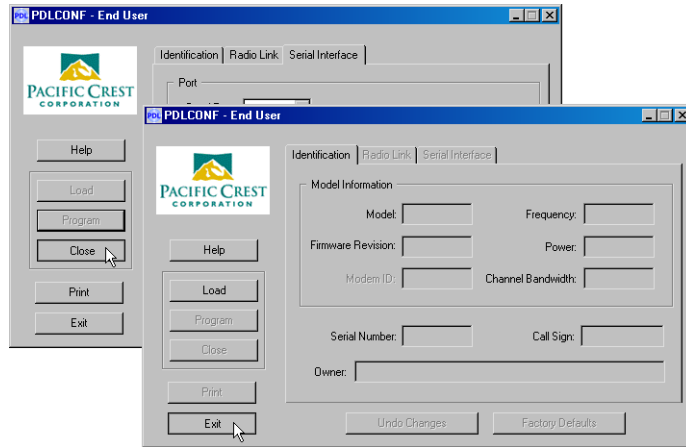

Figure 2-34. Click Close then Exit
16. Click Close and then Exit to quit the program (Figure 2-34).